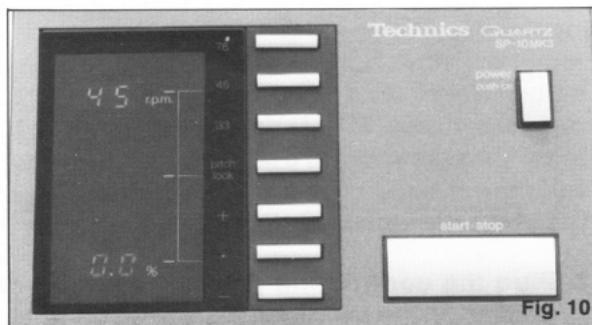

Fig. 10
2. Switch the speed to 45 rpm if you are going to play a 45 rpm record. (Fig. 10)